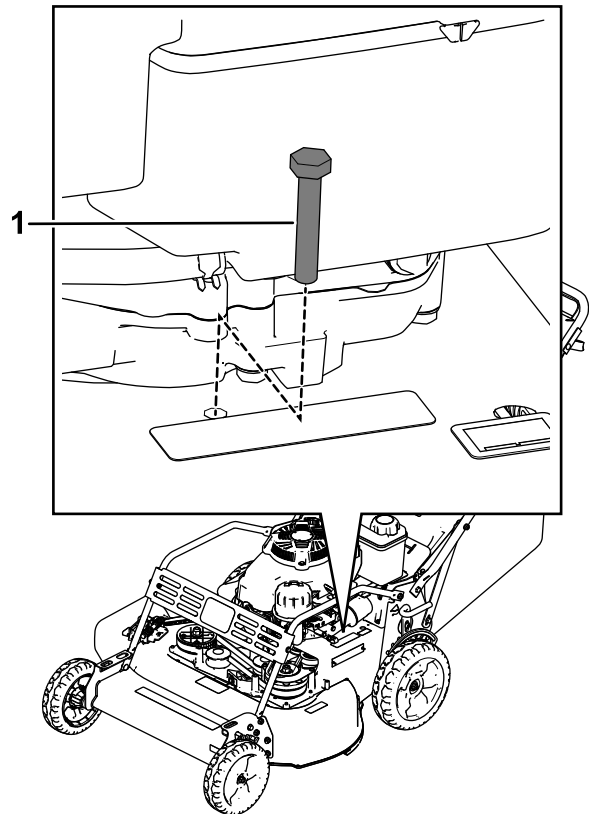
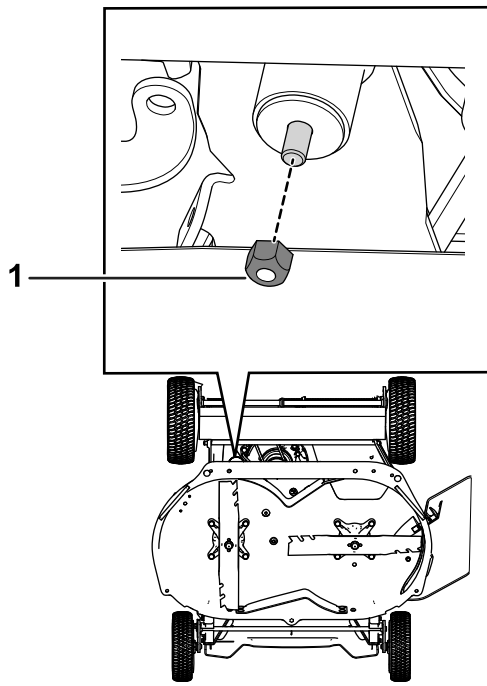

Figure 6
Figure 7
3. Remove the bolt and the nut that secures the brake arm onto the machine; retain and set the bolt and the nut aside (Figure 6 and Figure 7).